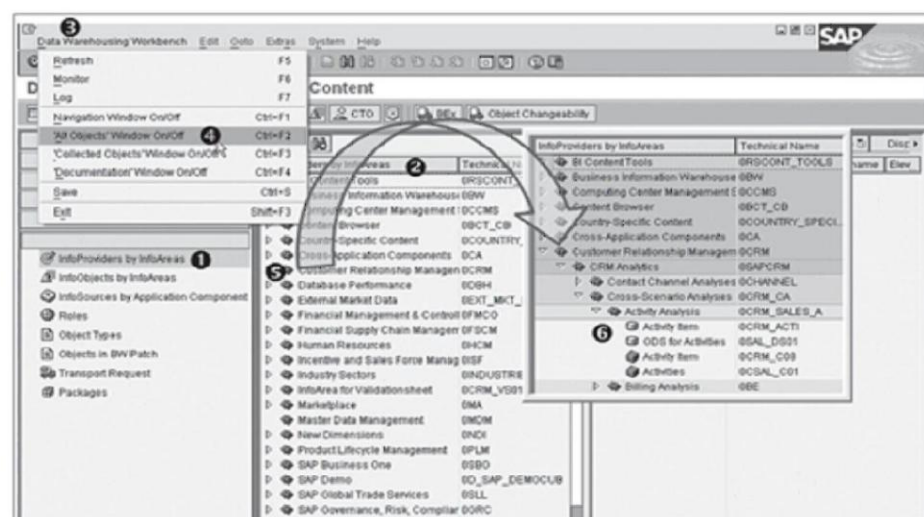

Figure 2.24 Selecting InfoProviders by InfoArea
When you click on InfoProviders by InfoArea, the screen shown in Figure 2.24 appears.
As shown in ❶ of Figure 2.24, the selected option is now highlighted. On the right side, one more panel — InfoProvider by InfoAreas — opens up (❷). If you're unable to view this panel, click the Data WAREHOUSING WORKBENCH MENU, and select ALL OBJECTS WINDOW ON/OFF, as shown in ❸ and ❹.
All of the InfoAreas offered by SAP Business Content are listed in this panel. Expand *Customer Relationship Management (OCRM)* (❺ of Figure 2.24), and you can see an expanded tree structure displaying InfoAreas and data targets (❻). (InfoAreas and data targets are explained in more detail in subsequent chapters.)